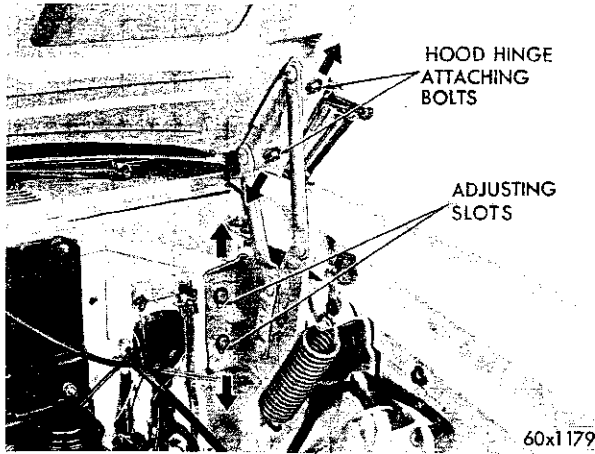

Fig. 4—Hood Hinge Adjustment
The upper hinge mounting stud holes are elongated for forward and rearward hood adjustment (Fig. 4). The hood hinge mounting bolt holes in the dash panel are elongated for up or down adjustment of the hood.
(1) To correct this condition, prop the hood open to relieve tension on the hinge springs.
(2) Loosen the bolts attaching the hood to the hinge plate, move hood rearward until correct spacing has been obtained, then tighten attaching bolts securely and inspect fit of hood. (Refer to Fig. 4.) When moving the hood forward or rearward, it is suggested that the hood latch adjustment be inspected.